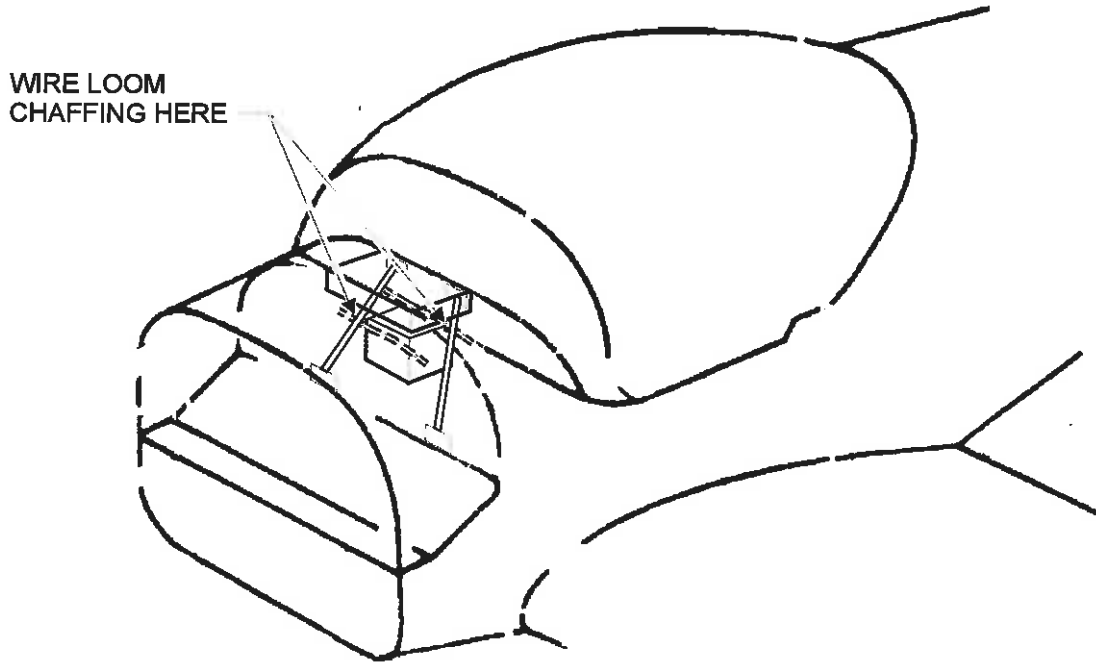

FIGURE 1
2. Inspect looms for signs of chafing or the possibility of chafing by the equipment racks, support struts or preform edges, ref. Figure 1.